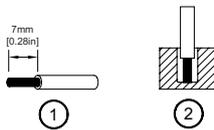

Figure 4
You can use flexible (stranded wire) or solid wire with cross section 0.32-5.3 mm2 (AWG 22-10) and torque of 0.45Nm (3.96lb in). To secure reliable and shock proof connections, the stripping length should be 7 mm [0.28 in] (see Fig. 4 (1)). Please ensure that wires are fully inserted into the connecting terminals as shown in Fig. 4 (2).